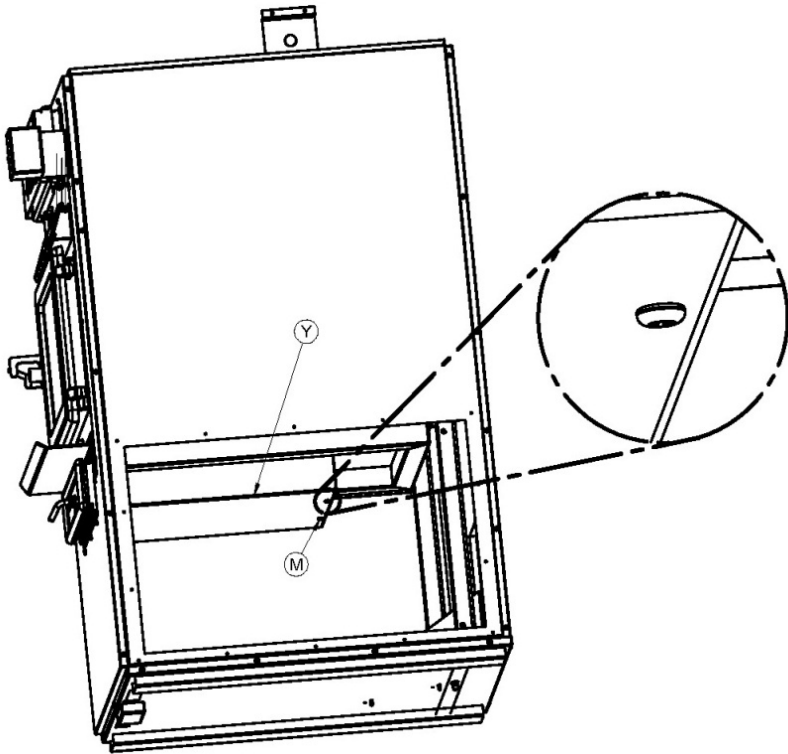

FIGURE 1
Step 1: Remove the panel (E) located at the right of the furnace by unscrewing the screws (F) maintaining it in place. Keep these screws, but you may dispose of the panel.
Step 2: Remove the panel (G) located at the right of the furnace by unscrewing the screws (H) maintaining it in place. Keep these screws, but you may dispose of the panel.
Step 3: Install the baffle (J) on the floor of the unit and secure it in the holes (Z) provided for this purpose with two screws provided in the kit. Make sure that the notch (I) rests on the edge of the back wall of the furnace.
Step 4: Remove the two screws (M) located under the ash pan casing (Y) (see Figure 1). Place the baffle (K) below the ash pan casing. Screw the front of the baffle under the ash pan casing with the screws (M) in their original holes (see Figure 2).